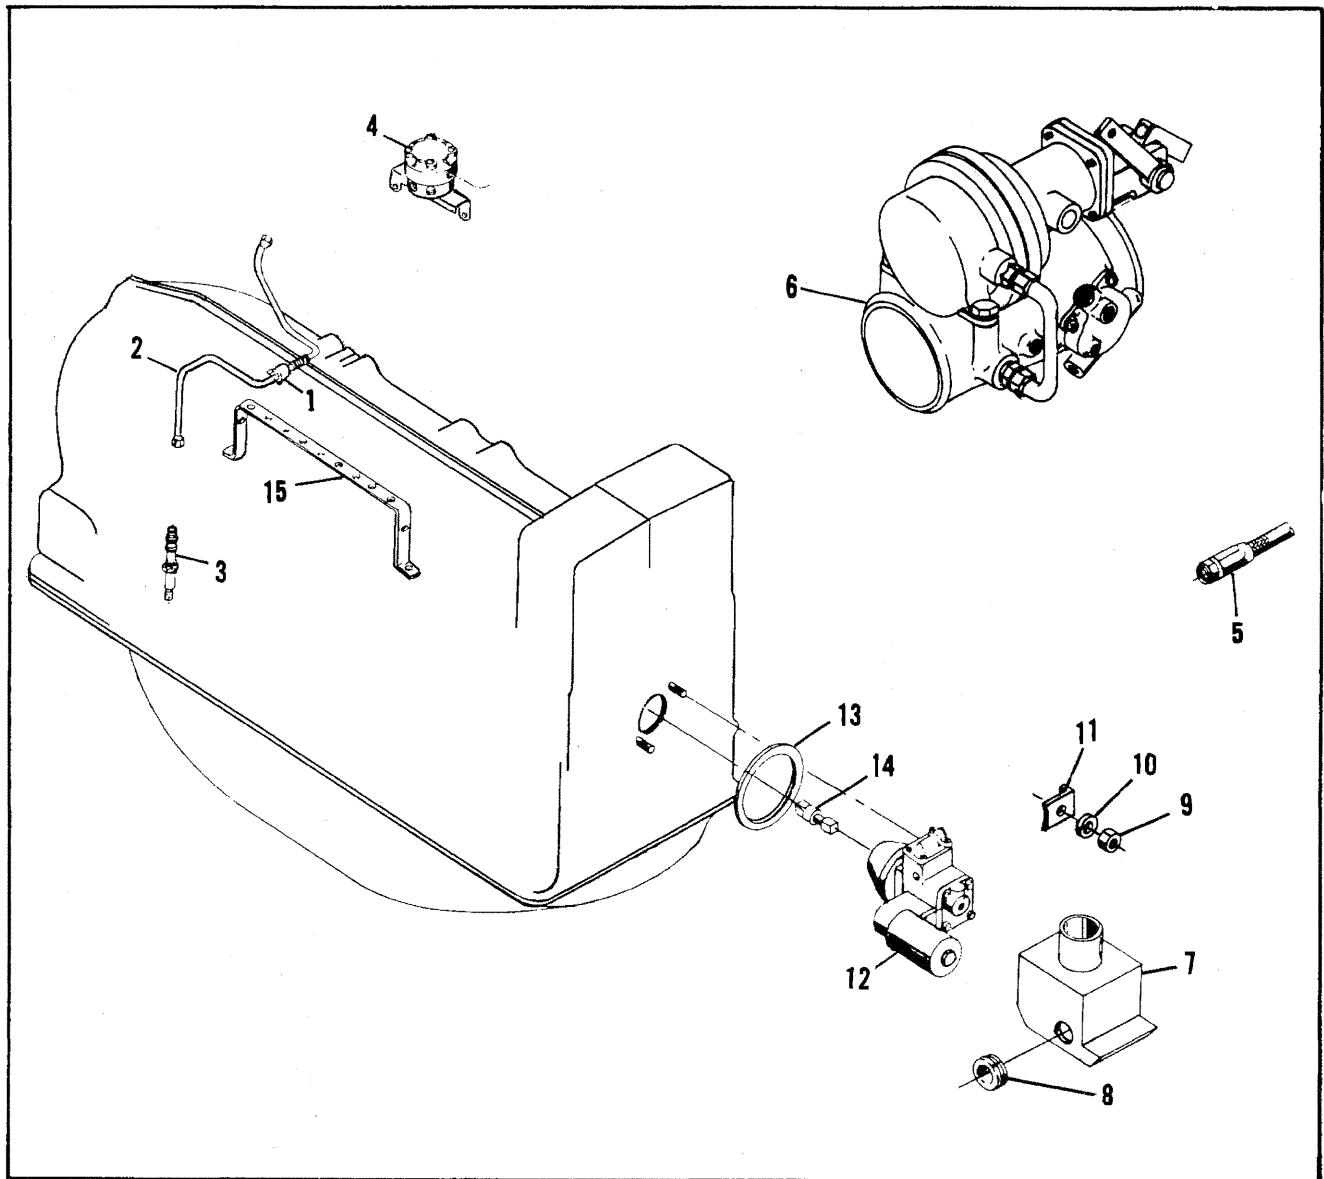
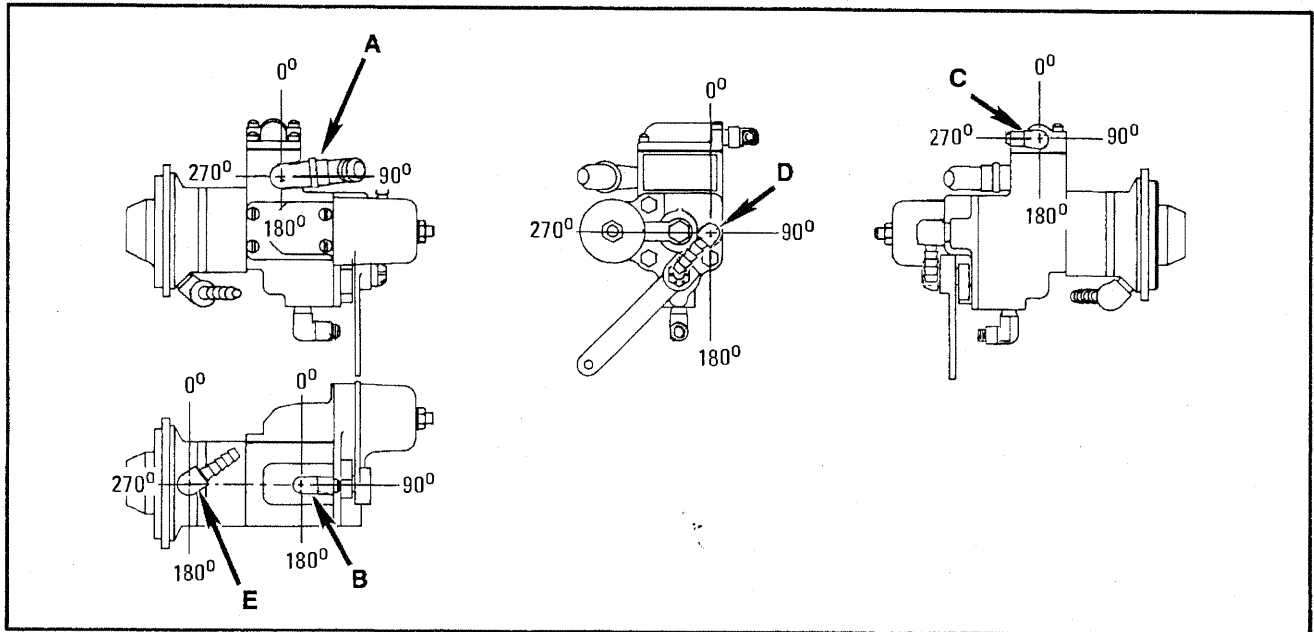
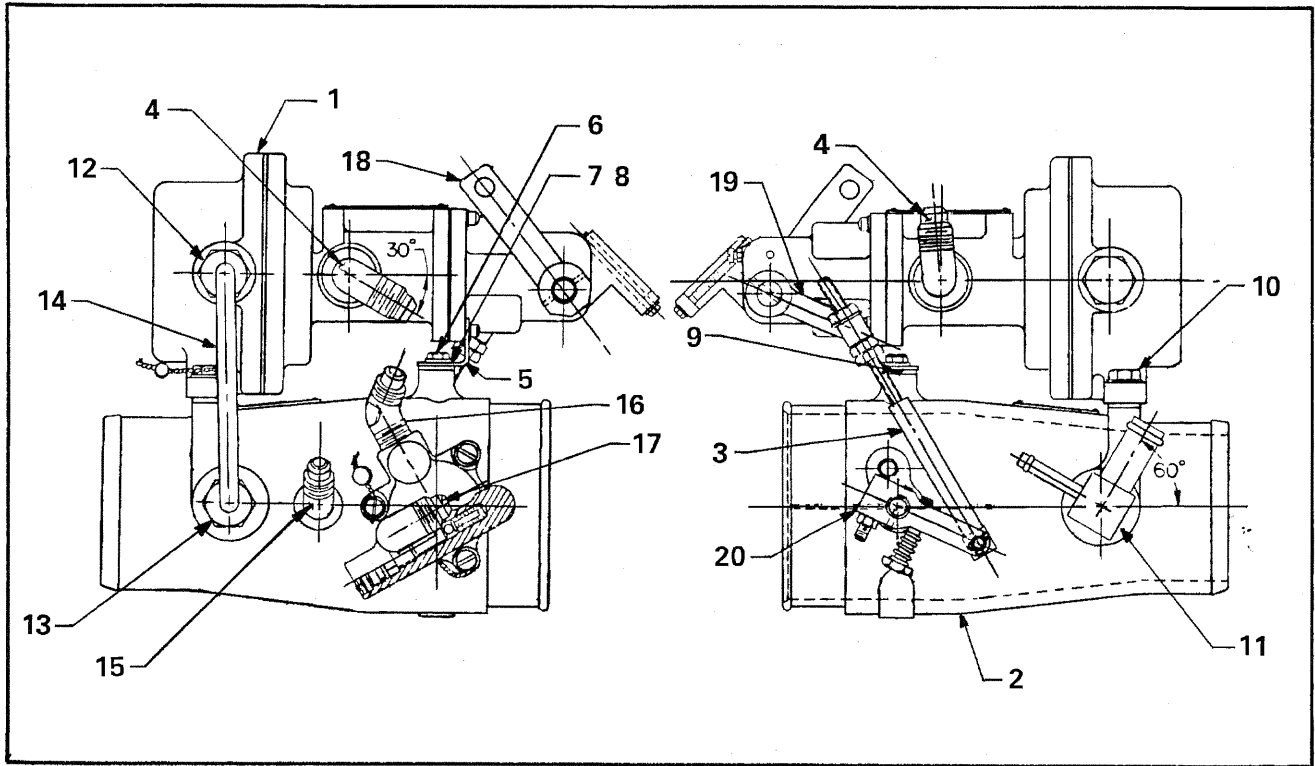

FIGURE 16-3 FUEL INJECTION SYSTEM
FIGURE 16-4. FUEL PUMP FITTING LOCATIONS
FIGURE 16-8. THROTTLE, CONTROLLER ASSEMBLY
## 16-10 FUEL INJECTION SYSTEM (See Figure 16-3)
A. Remove hose assembly (6), fuel pump to fuel metering and hose, fuel pump to air throttle body.
B. Remove attaching parts (10, 11, 12) and pull fuel pump (13) from crankcase. Separate shroud (8) from pump. Remove coupling (15) and gasket (14).
C. The air throttle assembly (7) was removed with the induction system.
D. Remove clamp (1) from bracket (16) and separate fuel discharge tube (2) from fuel manifold valve (4) and nozzle (3). Remove nozzles and fuel manifold valve.
E. (See Fig. 16-8) Remove tube assembly (14) and linkage assembly (3).
A. (See Fig. 16-8) Install fittings, if removed, in the attitude shown in figures 16-4, 16-5 and 16-8, being careful that no loose metal shavings get into the fuel stream.
B. Install bracket (5) on controller (1) and install controller on throttle body. Secure with attaching parts (6 thru 10).
C. Install adapter fittings (12, 13) and install tube assembly (14).
D. (See Fig. 16-3) Install nozzles (3). Install sleeves over nozzles and attach fuel discharge tubes (2). Secure tube to bracket (16) with clamp (1). Attach discharge tubes to fuel manifold valve (4).
E. Position shroud (8) on fuel pump (13). Lubricate coupling (15) and install in pump. Attach fuel pump to crankcase using new gasket (14) and secure with attaching parts (10, 11, 12).